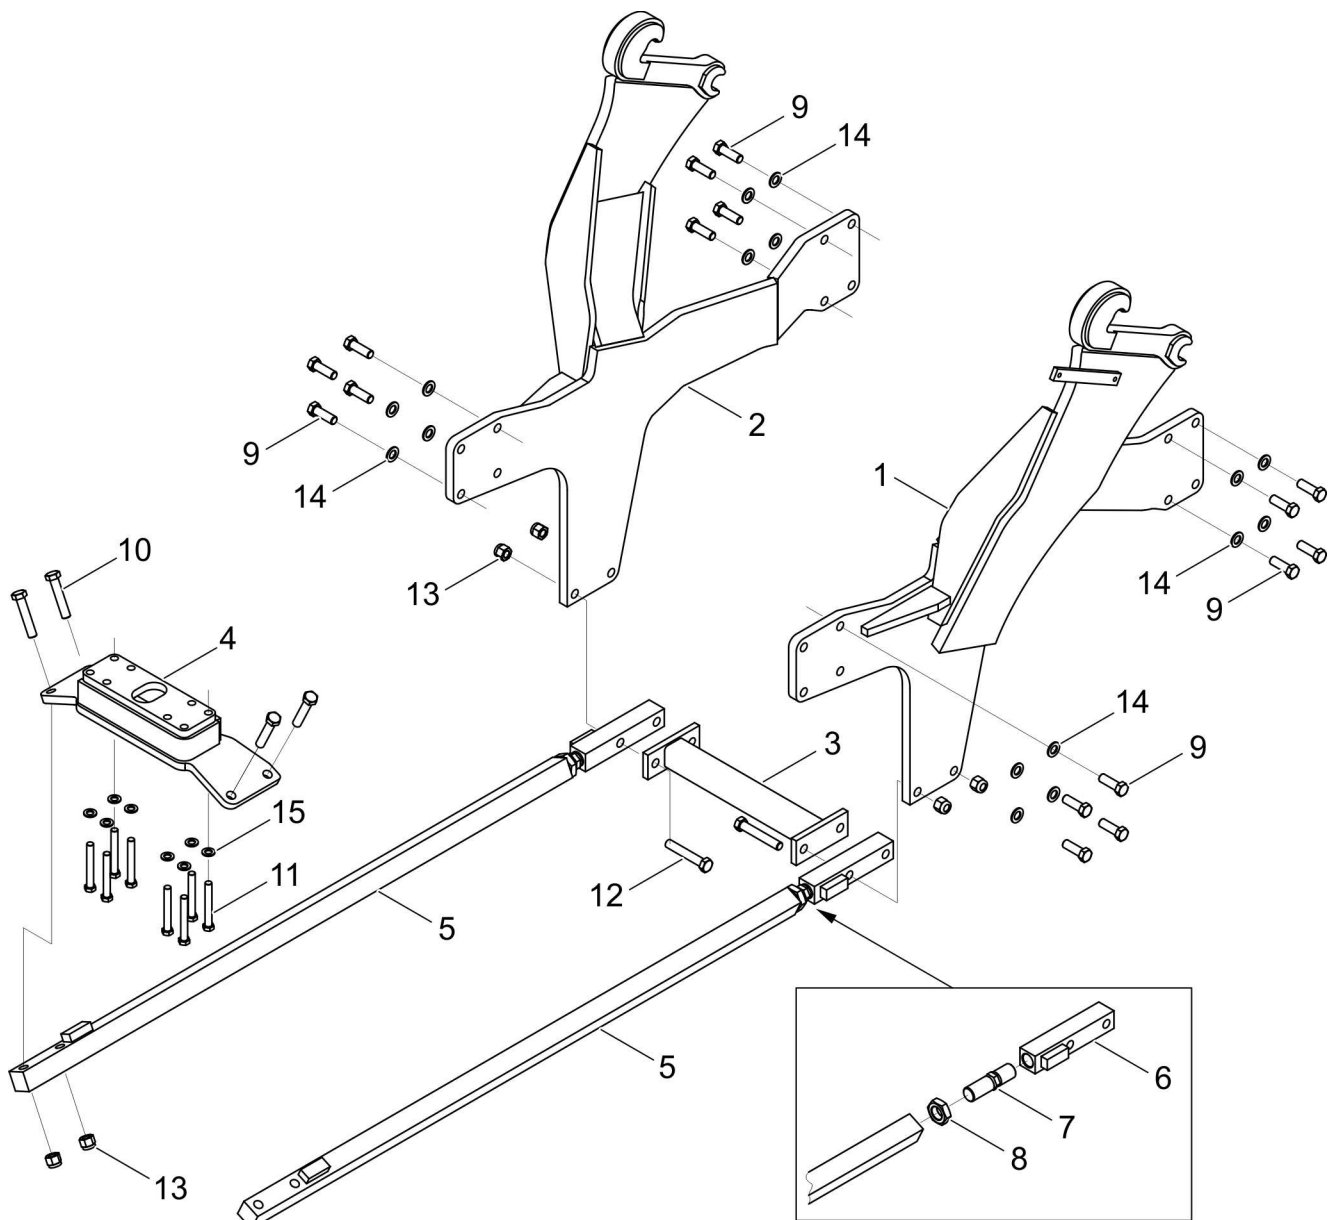
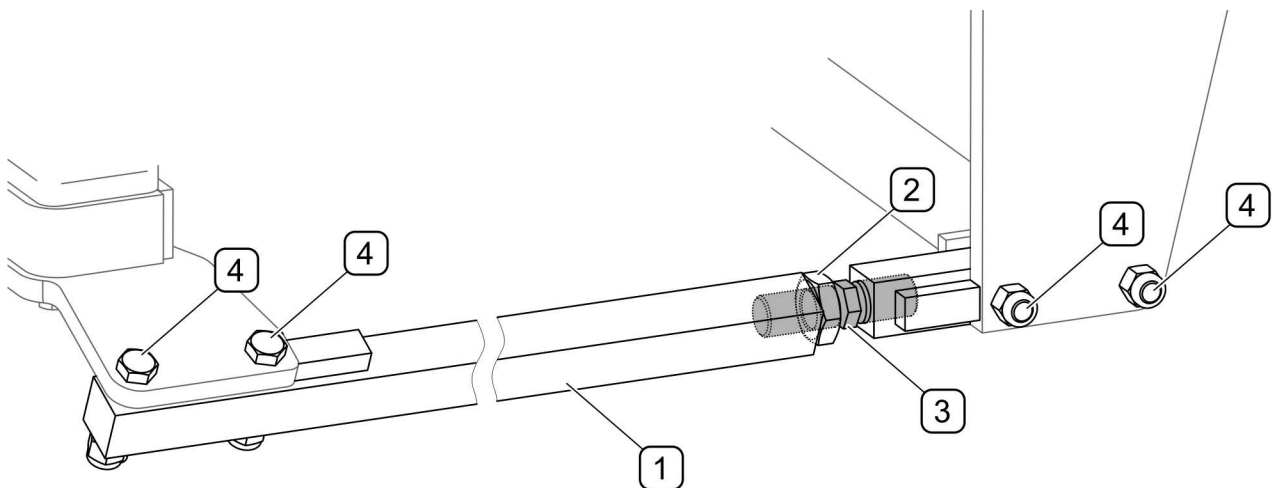

FIGURE 4.1. Installation of the support frame (PRONAR 6170)
FIGURE 4.2. Tensioning the substrings system of the support frame
Fasten the front and rear part of the supports (1) and (2) (FIGURE 4.1) using screws (9) with washers (14). Mount the bracket (4) for the binders to the driving axle using bolts (11) and washers (15). Use the bolts (10) and nuts (13) to fix the braces (4) to the bracket (4) and connect them to the brackets (1) and (2) with bolts (12) and nuts (13) at the front. When connecting the beams (5) with the brackets (1) and (2), a lacing (3) should be used. Tighten the substrings system (FIGURE 4.2)